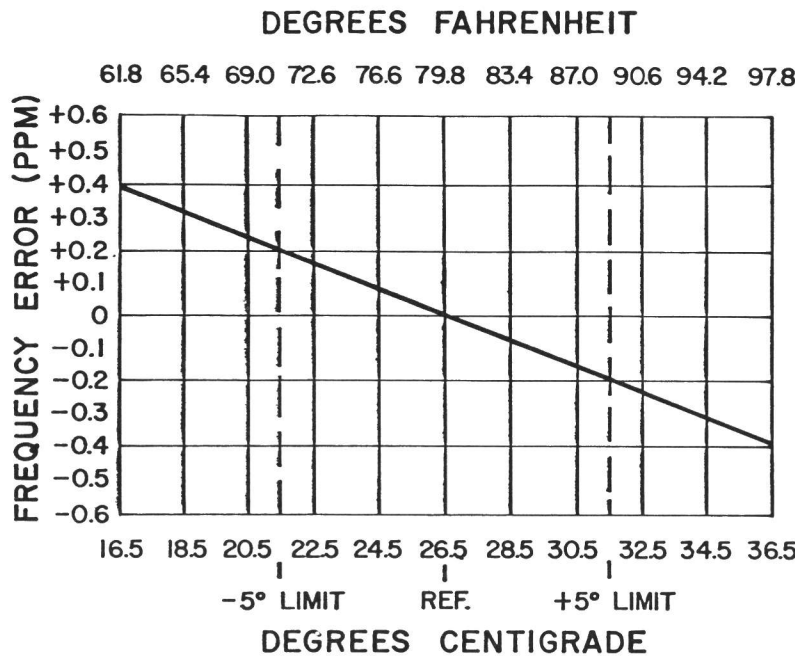

Figure 7 - Frequency Characteristics Vs. Temperature
2. Maintain the radio at 26.5°C ( $\pm 10^\circ\text{C}$ ) and offset the oscillator, as a function of actual temperature, by the amount shown in Figure 7.
- B. To hold setting error to  $\pm 0.35$  PPM (which is considered reasonable for 2 PPM ICOMs): Maintain unit at 26.5°C ( $\pm 5^\circ\text{C}$ ) and offset the oscillator as a function of actual temperature, by the amount shown in Figure 7.